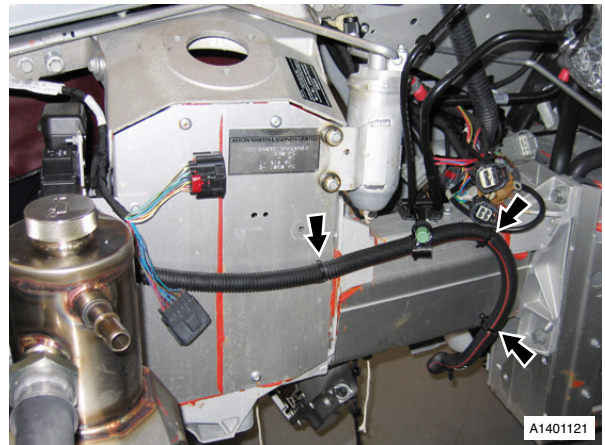

Fig. 1
5. Release battery cable clips (x6), from body (see Fig. 1).